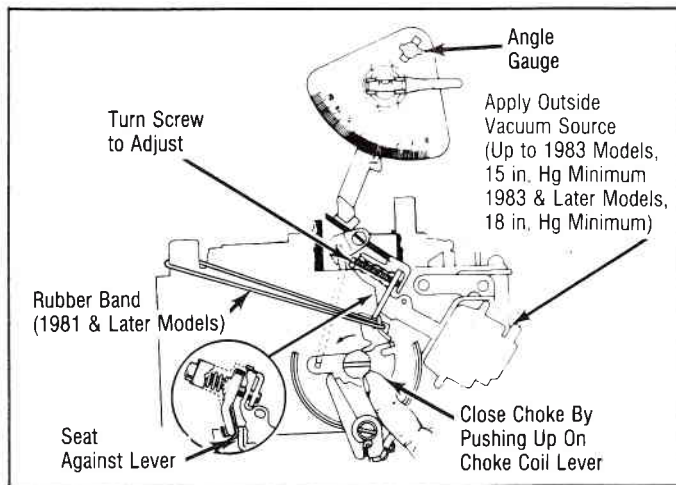

Fig. 8 Front Vacuum Break Adjustment
2. On all models, using an outside vacuum source of at least 15 in. Hg (1983 and later models, 18 in. Hg), seat primary (front) vacuum break diaphragm. Ensure left bucking spring is seated against lever, if equipped. See Fig. 8.